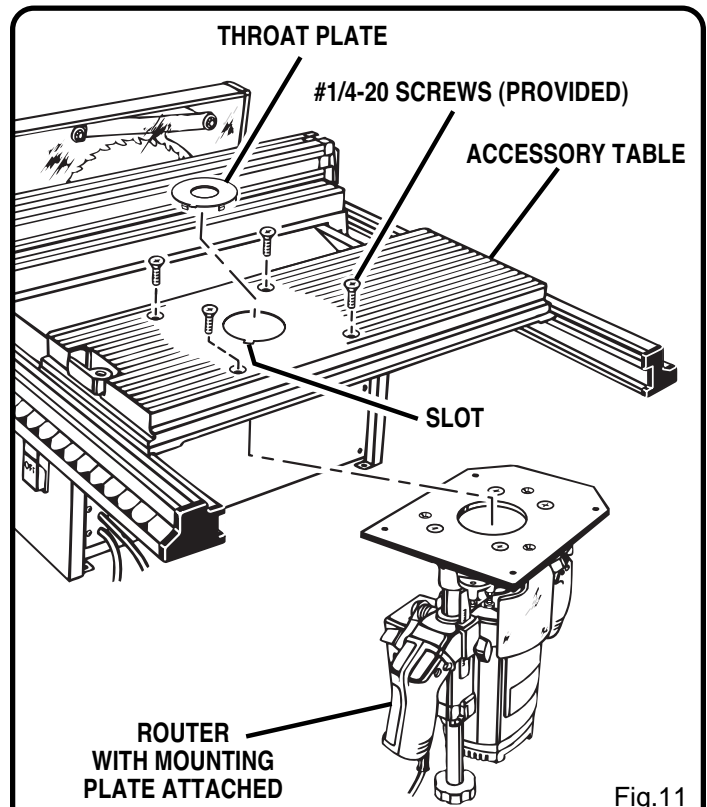

Fig.11
- Place the router with the mounting plate under the accessory table. See Figure 11.